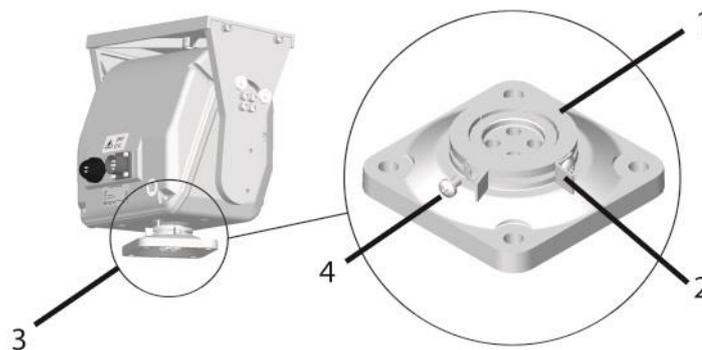

Fig. 7 Setting the Pan end-stops
1. Drive the unit to the required pan stop positions to adjust the strikers (see Fig. 7).